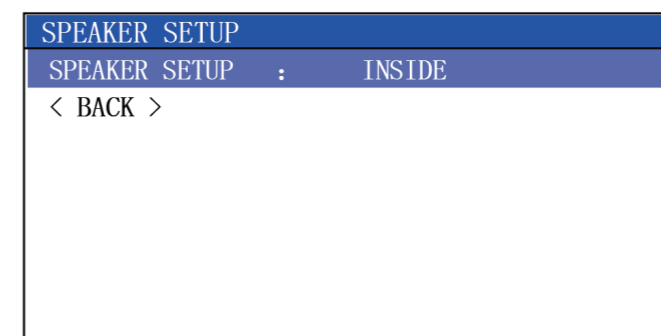

Figure6.6.4
- a:In the system setting menu,select the <speaker setting> option and press the [ENT] key to open the speaker settings dialog box,an shown in Figure 6.6.4